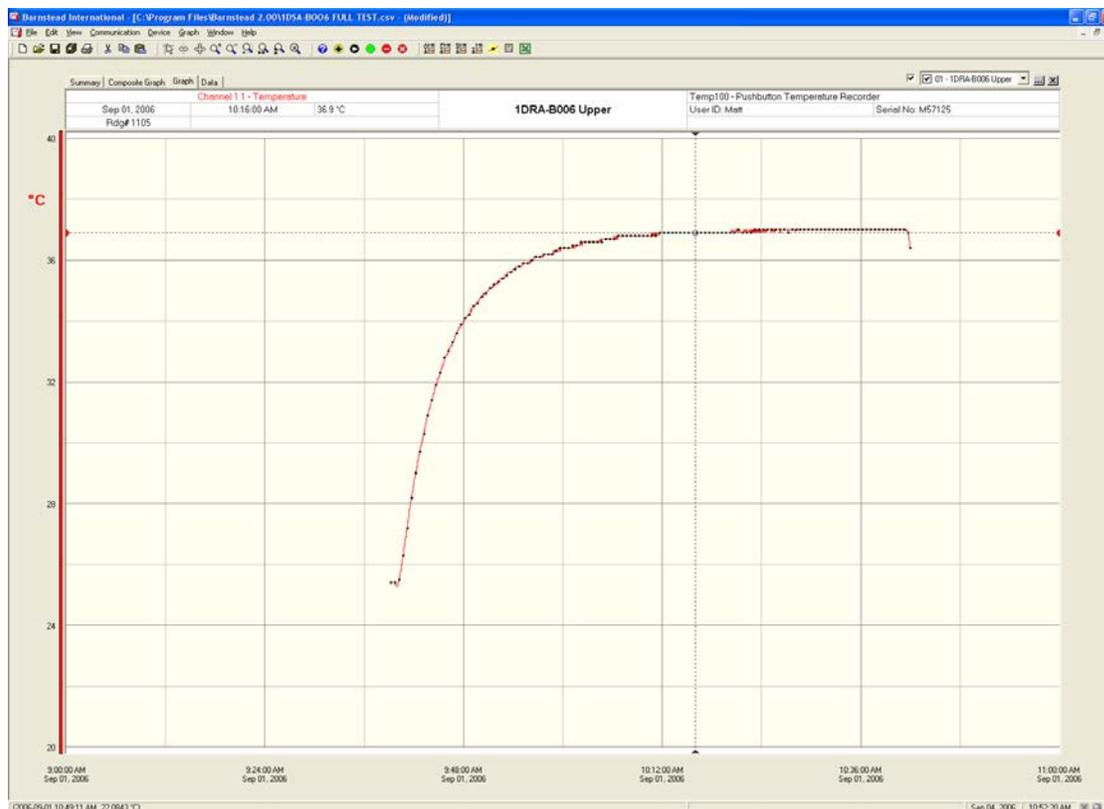

Figure 5-73: Upper Temperature Plot
16. Enter the DS2 Reader Serial Number and *Upper* as the file name for the readings as shown in the upper right in Figure 5-73. This figure page shows the readings taken during the Incubation as a plot.